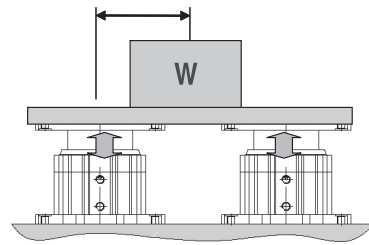

Fig. 1 Cylinder Connection Installation Figure
- In case center distance of applied load is over 400mm or rotating torque is over the regulation, use more than 2 standard cylinders as it is shown in Figure 1.